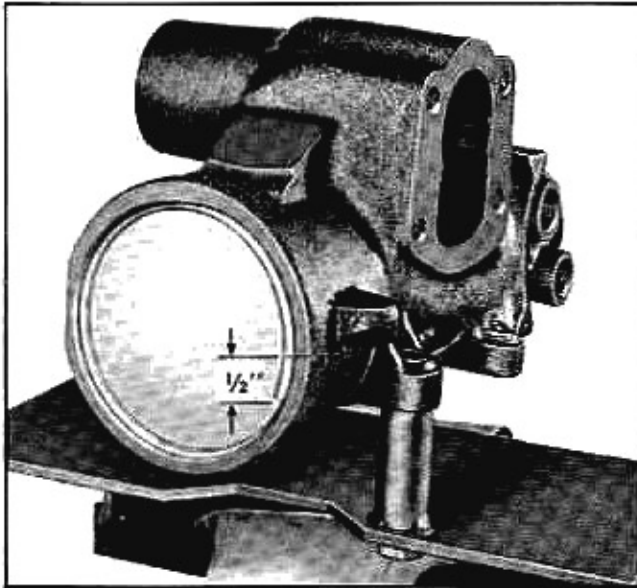

Fig. 9A-34 Installing End Plug Retainer Ring
3. Install end plug retainer ring so end of ring extends over and at least $\frac{1}{2}$ " beyond the ring removal assist hole (Fig. 9A-34).